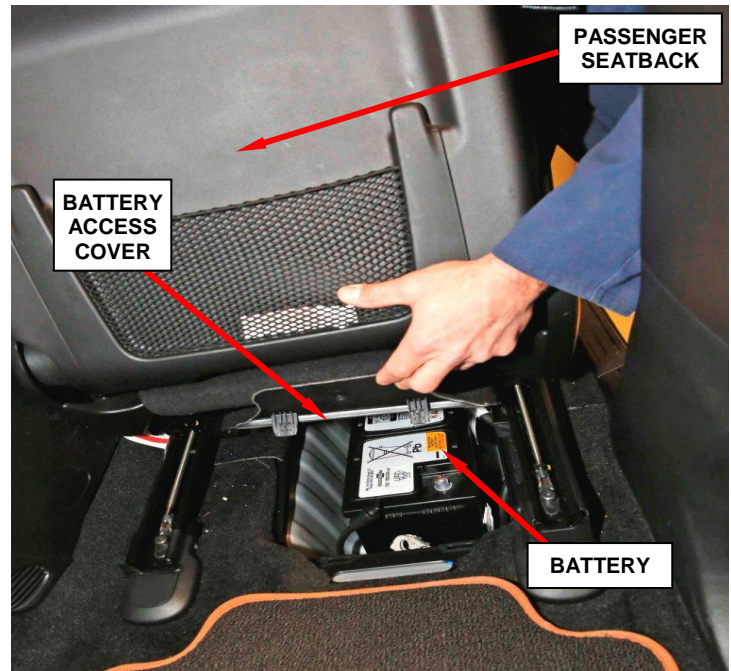

Figure 2 – Battery Access
4. Open the battery access cover located under the passenger front seat and disconnect the negative battery cable (Figure 2).